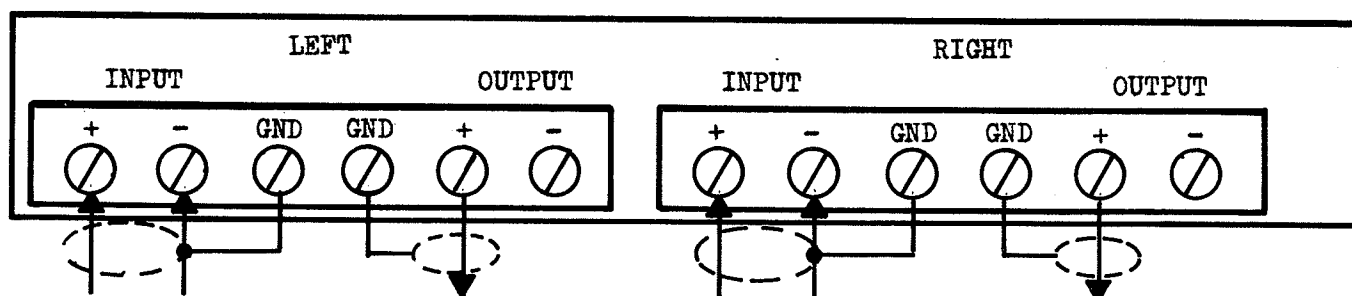

FIGURE 2-4 UNBALANCED OPERATION CONNECTION DIAGRAM
2.2.3 Unbalanced Operation (Figure 2-4)